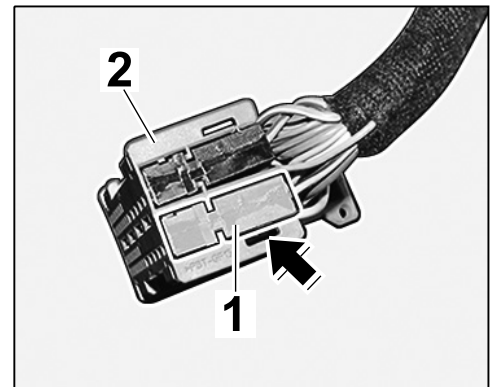

Figure 13
- 2.4.5 Press down the locking mechanism ⇒ *Figure 13-arrow-* and slide the grey plug socket ⇒ *Figure 13-1-* out of the plug carrier ⇒ *Figure 13-2-*.